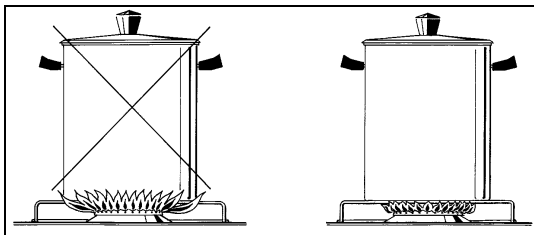

Fig. 22
- Use suitable pots for each burner (see tab. 5 and Fig. 22).